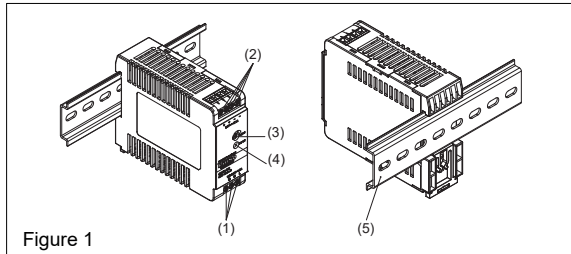
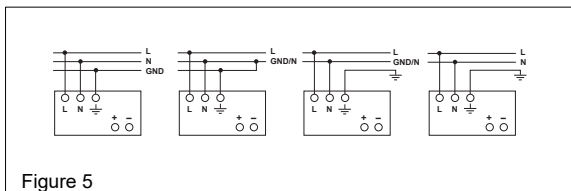

Figure 1
Figure 5
**5.1. Input connection (Fig. 1, Fig. 5)**
Use L, N and GND connections of input terminal connector (see Fig. 1 (1)) to establish the 100-240 VAC connection. Typical connection methods are shown in Figure 5.
**5.2. Output connection (Fig. 1 (2))**
Use the "+" and "-" screw connections to establish the 24VDC connection. The output provides 24VDC. The output voltage can be adjusted from 24 to 28 VDC on the potentiometer. The green LED DC OK displays correct function of the output (Fig. 1 (4)). The device has a short circuit and overload protection and an overvoltage protection limited to 30-34.8 VDC.